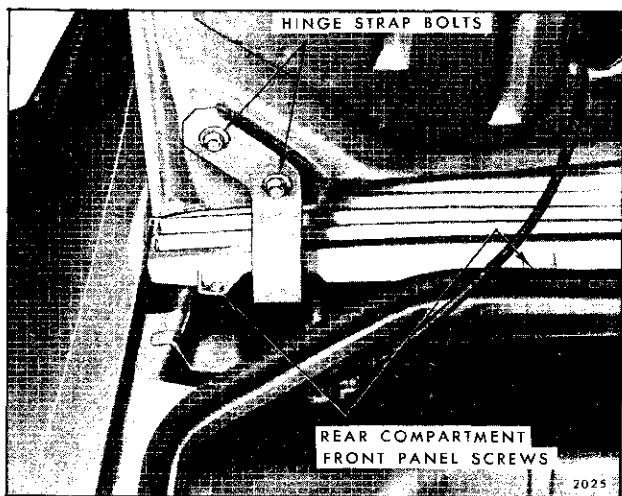

Fig. 8-5—Rear Compartment Front Panel Screws — Oldsmobile and Buick "E" Styles
1. Raise rear compartment lid and remove lower screws of panel (see Fig. 8-5).